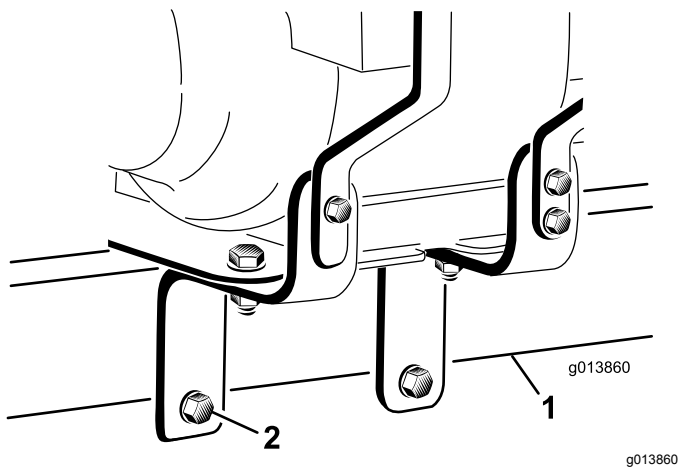

Figure 7
21. Insert the 2 bolts (1/2 x 3 inches) through the engine mount bracket holes ensuring that a flat washer is fitted against each outer face of the engine mount bracket and ensuring that the bolts pass clear beneath the bottom of the ProPass hitch tube. Hand tighten the 2 nuts (1/2 inch) (Figure 7).